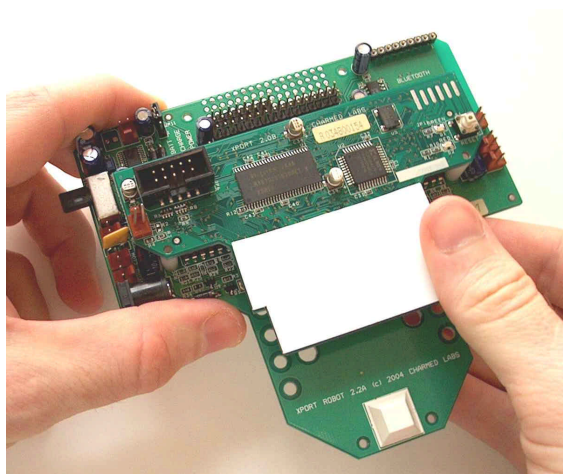

Figure 2: Attaching Xport to Robot Board
1. *If you ordered the XRC Starter Kit, the Xport and Robot Board are ready for use, and you can begin at step 3.* If you already have an Xport, plug the Robot Board into the Xport as shown in **Figure 2**.